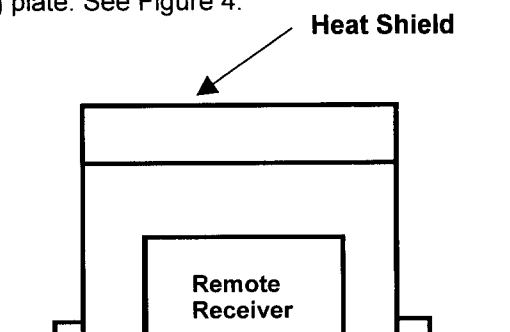

Figure 6
7. In order to prevent the Remote Receiver (fireplace installation only) from overheating, put a heat shield (option item) above the Remote Receiver. See Figure 6.